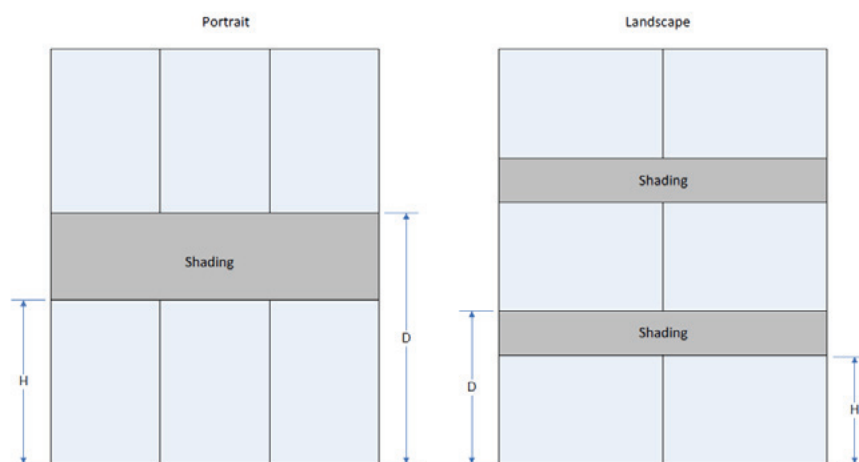

Figure 2 – H is dependent on orientation
Herein, the variable (Θ) is the tilt of the panels, while the variable (α) is a function of the latitude of the installation and the optimal sun elevation. The sun elevation (α) can be found from a sun chart similar to the one published by the University of Oregon at: <http://solardat.uoregon.edu/SunChartProgram.php>. The variables (D) and (H) are described in Figure 2.